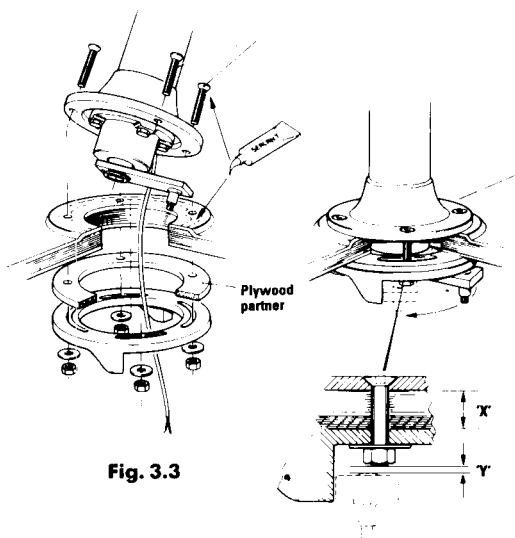

Fig. 3.3
It may be necessary to manufacture a spacer ring to obtain the correct height for the stop ring — see Figure 3.3. Distance 'x' needs to be adjusted to allow the full edge of the output lever to abut the lug on the stop ring.
4.2 When you have aligned the pedestal mark the 4 off 13mm $1\frac{1}{2}$ diameter holes to be drilled on the cockpit sole. Remove the pedestal and drill holes. Using a non-setting mastic apply a bead of sealant around the underside edge of the pedestal base. Carefully set the pedestal back in position and insert the four pedestal mounting bolts. Put sealant under the head of the countersunk bolts and tighten using heavy washer and nuts. See Figure 3.3.